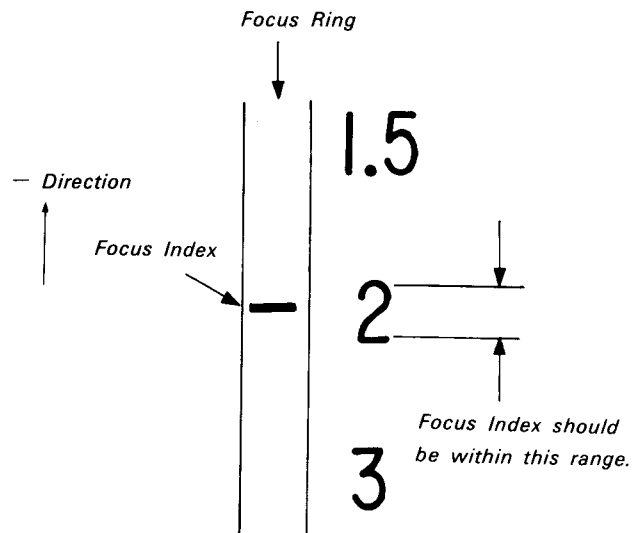

Fig. 1-9.
- 3) Adjust focus by turning the focus ring. Confirm that the focus index position is within the range shown in Fig. 1-9. Also, memorize the focus index position (If this condition cannot be attained, perform flange-back adjustment).